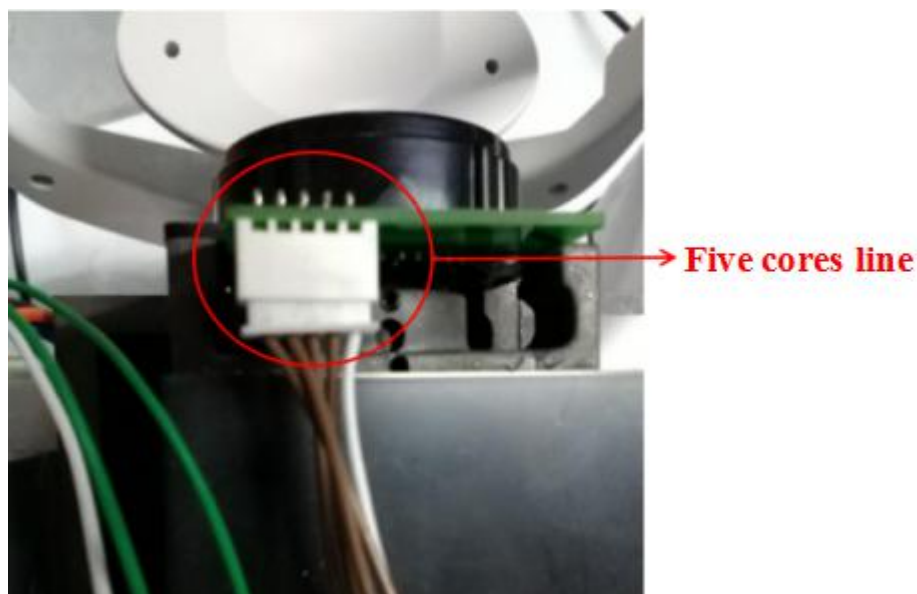

Fig 7.4-3
5.LED light board have only one cable,the socket connected is shown as Fig7.4-3. When replacing the installation, pay attention to the connecting position of the connecting wire.